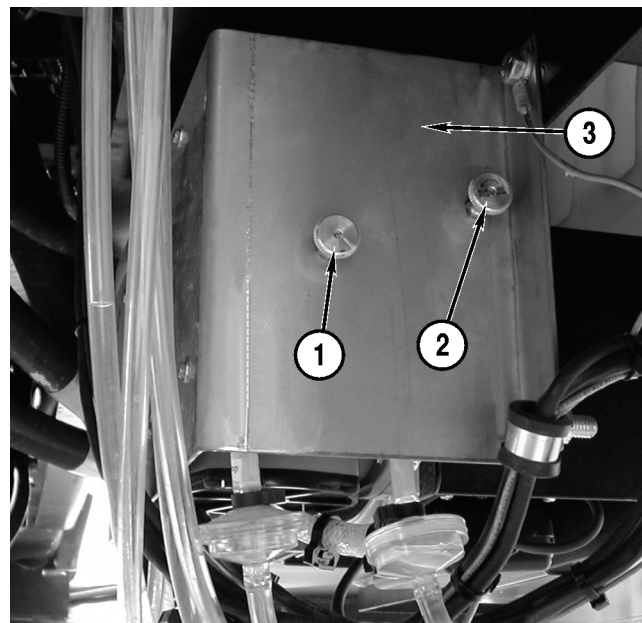

Figure 4-34
2. To adjust the foam quality, open the soap injection valve (**Figure 4-34, 1**) by turning the knob counterclockwise. Adjust the foam quality until foam is rich and thick.
3. To adjust the total foam output, open the output valve (**Figure 4-34, 2**) by turning the knob counterclockwise. Adjust as needed.
NOTE: The water pump and air compressor are located behind this panel (**Figure 4-34, 3**), on the back side of the hydraulic tank.